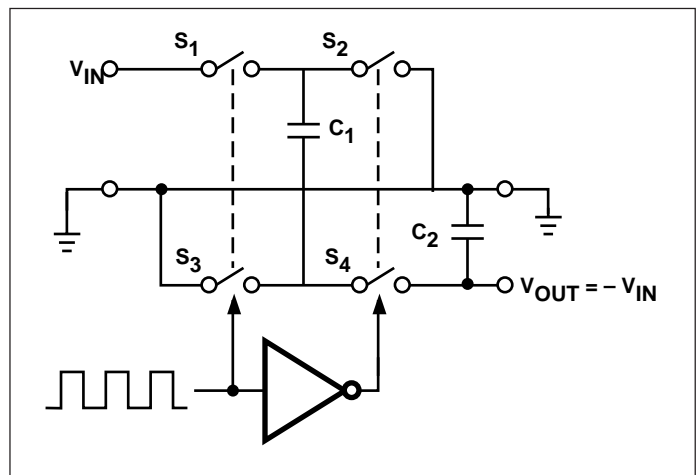
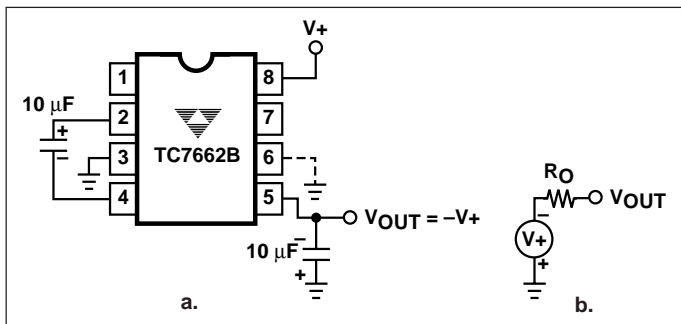
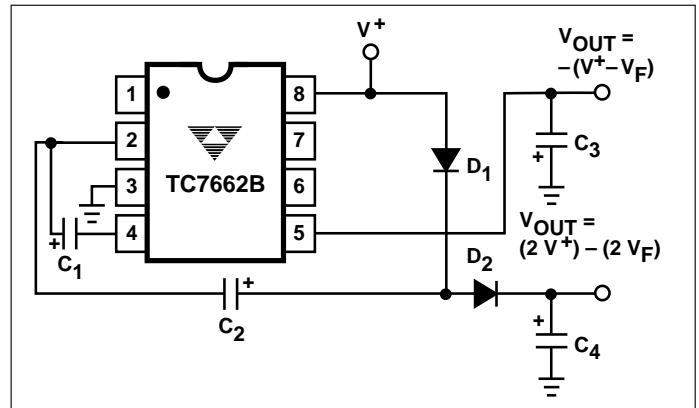

Figure 2. Idealized Negative Voltage Capacitor
Figure 3. Simple Negative Converter and its Output Equivalent
Figure 10. Combined Negative Converter and Positive Doubler
ELECTRICAL CHARACTERISTICS: V+ = 5V, T_A = +25°C, OSC = Free running, Test Circuit Figure 2, Unless Otherwise Specified.
The TC7662B contains all the necessary circuitry to complete a negative voltage converter, with the exception of two external capacitors which may be inexpensive 1μF polarized electrolytic types. The mode of operation of the device may be best understood by considering Figure 2, which shows an idealized negative voltage converter. Capacitor C₁ is charged to a voltage V⁺ for the half cycle when switches S₁ and S₃ are closed. (Note: Switches S₂ and S₄ are open during this half cycle.) During the second half cycle of operation, switches S₂ and S₄ are closed, with S₁ and S₃ open, thereby shifting capacitor C₁ negatively by V⁺ volts. Charge is then transferred from C₁ to C₂ such that the voltage on C₂ is exactly V⁺, assuming ideal switches and no load on C₂. The TC7662B approaches this ideal situation more closely than existing non-mechanical circuits.
In the TC7662B, the four switches of Figure 2 are MOS power switches; S₁ is a P-channel device and S₂, S₃ and S₄ are N-channel devices. The main difficulty with this approach is that in integrating the switches, the substrates of S₃ and S₄ must always remain reverse biased with respect to their sources, but not so much as to degrade their "ON" resistances. In addition, at circuit start up, and under output short circuit conditions (V_{OUT} = V⁺), the output voltage must be sensed and the substrate bias adjusted accordingly. Failure to accomplish this would result in high power losses and probable device latchup.
where V₁ and V₂ are the voltages on C₁ during the pump and transfer cycles. If the impedances of C₁ and C₂ are relatively high at the pump frequency (refer to Figure 2) compared to the value of R_L, there will be a substantial difference in voltages V₁ and V₂. Therefore, it is desirable not only to make C₂ as large as possible to eliminate output voltage ripple, but also to employ a correspondingly large value for C₁ in order to achieve maximum efficiency of operation.
The majority of applications will undoubtedly utilize the TC7662B for generation of negative supply voltages. Figure 3 shows typical connections to provide a negative supply where a positive supply of +1.5V to +15V is available. Keep in mind that pin 6 (LV) is tied to the supply negative (GND) for supply voltages below 3.5 volts.
The output characteristics of the circuit in Figure 3 can be approximated by an ideal voltage source in series with a resistance as shown in Figure 3b. The voltage source has a value of $-(V_+)$. The output impedance (R_O) is a function of the ON resistance of the internal MOS switches (shown in Figure 2), the switching frequency, the value of C_1 and C_2 , and the ESR (equivalent series resistance) of C_1 and C_2 . A good first order approximation for R_O is:
Figure 10 combines the functions shown in Figures 3 and 9 to provide negative voltage conversion and positive voltage doubling simultaneously. This approach would be, for example, suitable for generating +9V and -5V from an existing +5V supply. In this instance, capacitors C_1 and C_3 perform the pump and reservoir functions, respectively, for the generation of the negative voltage, while capacitors C_2 and C_4 are pump and reservoir, respectively, for the doubled positive voltage. There is a penalty in this configuration which combines both functions, however, in that the source impedances of the generated supplies will be somewhat higher due to the finite impedance of the common charge pump driver at pin 2 of the device.